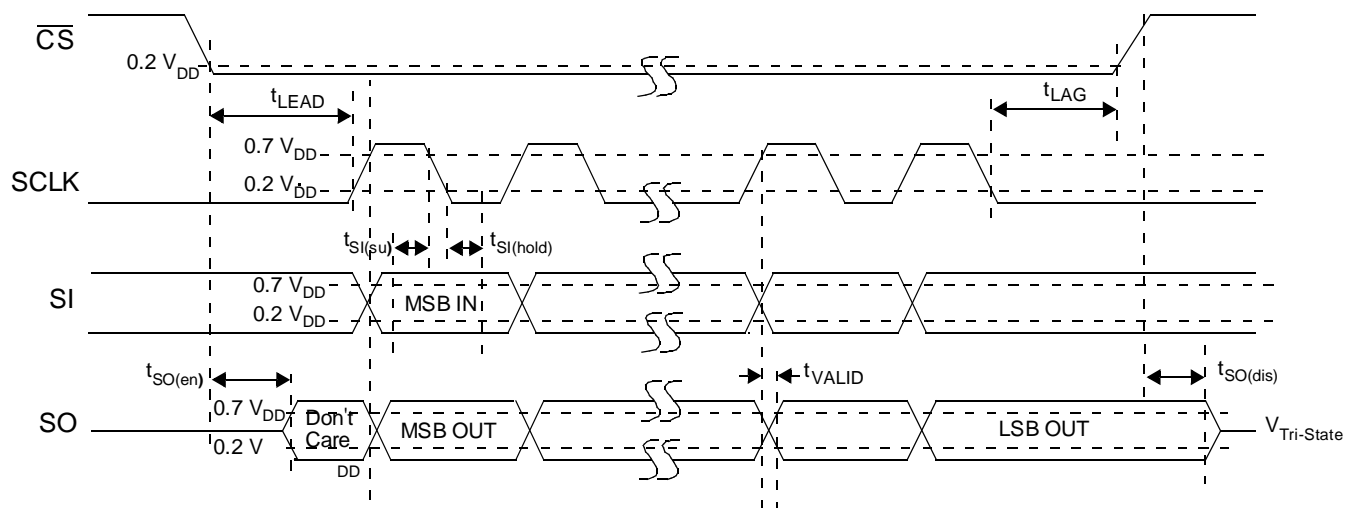

Figure 4. SPI Timing Characteristics
The Serial Input (SI) pin is used to enter one of seven serial instructions into the 33999. SI SPI bits are latched into the Input Shift register on each falling edge of SCLK. The Shift register is full after 24 bits of information are entered. The 33999 operates on the command word on the rising edge of  $\overline{CS}$ . To preserve data integrity, exercise care to not transition SI as the SCLK transitions from high-to-low state (see Figure 4, page 8).